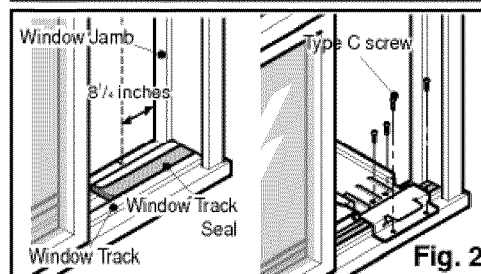

Fig. 2
- Remove protective backing from Window Track Seal and apply seal to window track. (Fig.2)
- Measure and lightly mark a line 8-1/4 inches from window jamb. Center the Support Bracket assembly on the window track and fasten with 4 Type C screws. (Fig. 2)